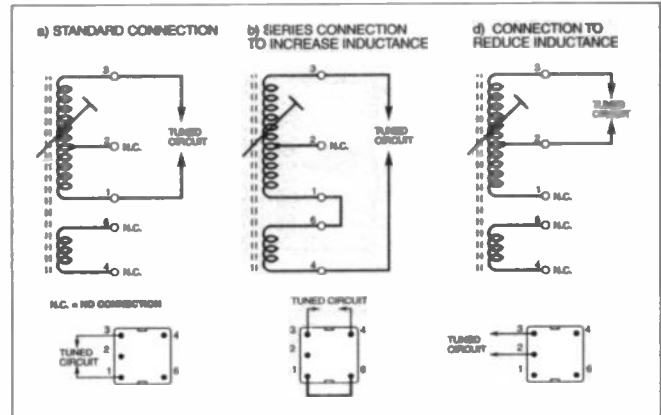

Fig.6. Base connection details for Toko coils.
(1) See Fig.6 for details of coil base wiring.
(2) Coverage can be varied, between fairly wide limits, by adjusting the coil ferrite cores.
Frequency coverage with a 10pF to 365pF tuning capacitor and a range of Toko coils is scheduled in Table 1. Details of the coil base connections are given in Fig.6. Readers who would prefer to wind their own coils should refer to Part One for details.